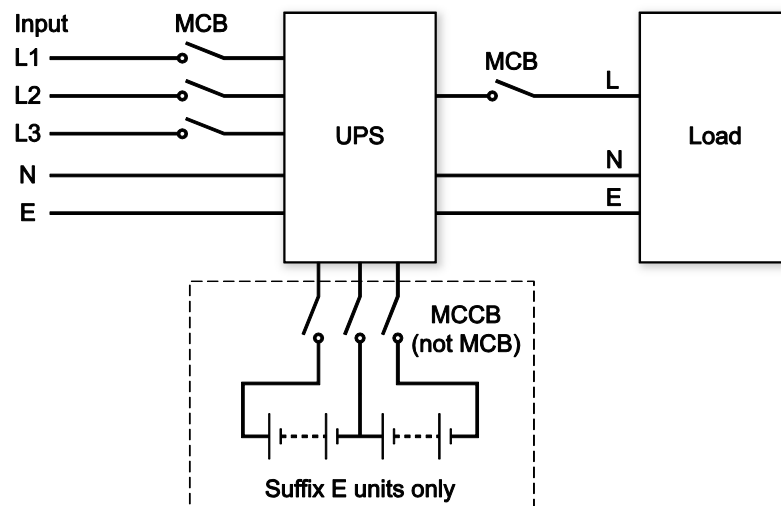

Figure 2 Power cable wiring configuration for a single UPS
- Always fit an MCB between the mains supply live lines only and the UPS input (see Figure 2).
- If using external batteries, always fit a 3 pole MCCB, with a suitable d.c. voltage rating and breaking capacity, between the battery and the UPS (see Figure 2).
- Although it may not be absolutely necessary, we recommend you fit an MCB between the UPS and the load to protect the output load and cables in the event of a fault (see Figure 2). You may also wish to connect the UPS output to your load via a distribution unit (PDU).